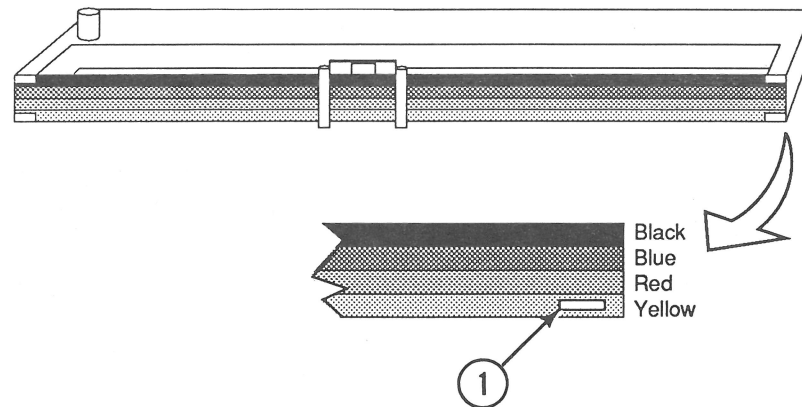

FIGURE 7
3. Compare your printout with the color sequence of the ribbon to determine whether the printer is printing above or below the center of the color bands (Figure 7, #1).